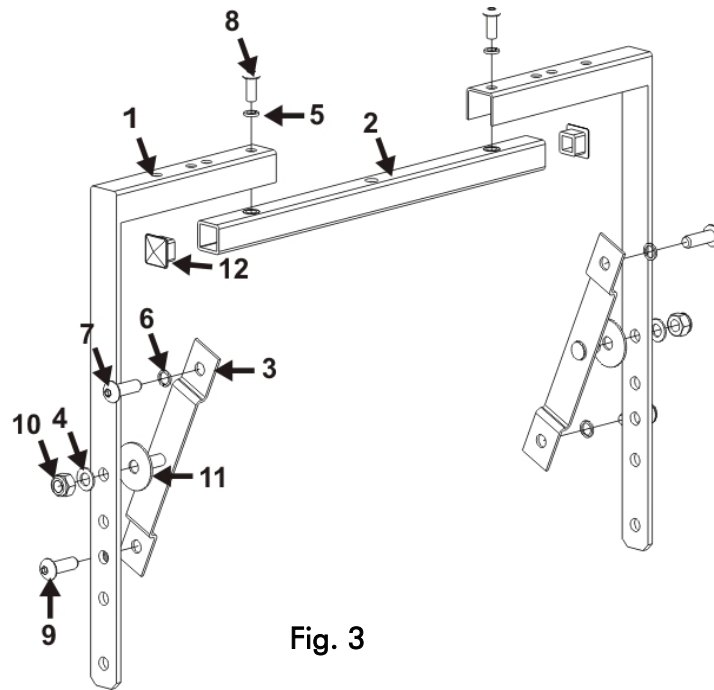

Fig. 3
**Only the screws, fasteners, shakeproof and plain washers specified on figure 3. should be used to assemble the VMY bracket**
Pivot studs (Figure 3.) (Supplied with the VMY) are attached to the cabinet using the M10 bolts supplied. These bolts locate on the M10 inserts in the cabinet. The VMY adjustable yoke bracket then connects to the centre of these mounting plates (using the M10 screws supplied). These bracket pick up points which are in line with the bracket's axis of rotation, are also positioned on the centre of gravity of the V12HP in both orientations to allow easy adjustment for optimum coverage.
Use the table of parts along with the assembly drawing (Figure 3.) to assemble the VMY. Figure 4 shows the VMY assembled.